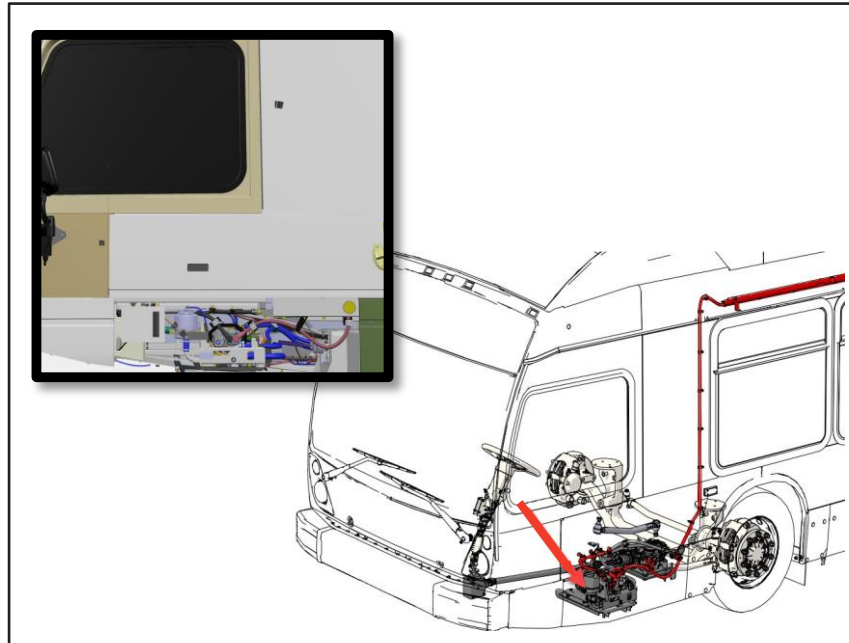

Figure 2 - Location of the E-steering motor to access
- 1.4. To access the e-steering system lift the bus to chest height and then open bus front street side compartment (see figure 2).